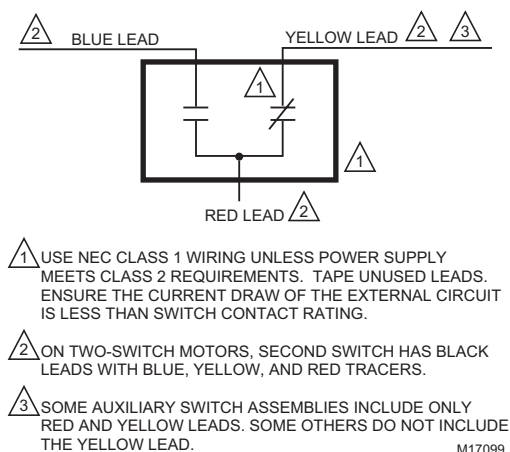

Fig. 12. Auxiliary switch schematic.
See Fig. 6 through 10 for typical system wiring. Fig. 12 shows auxiliary switch connections.
NOTE: For auxiliary switch wiring, see Fig. 12.
- See Fig. 12 (or the auxiliary switch Instruction Sheet) for auxiliary switch wiring.